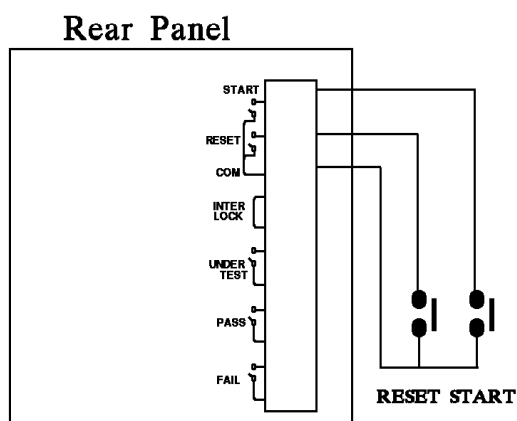
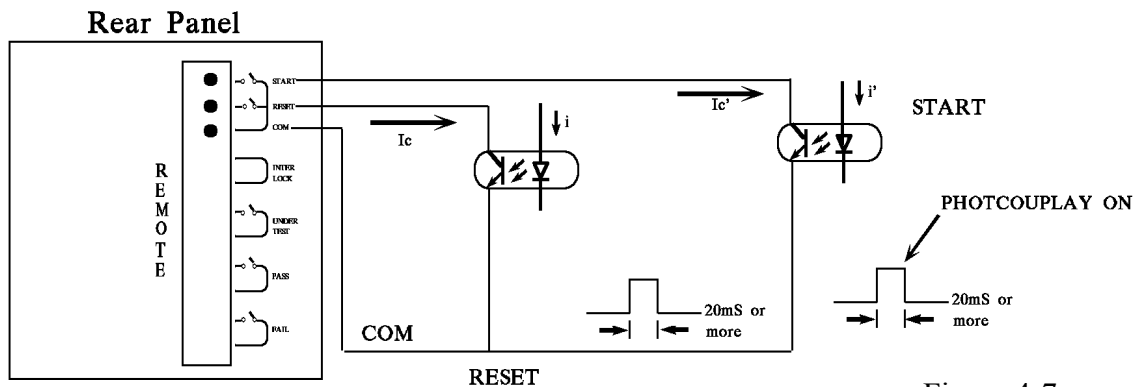

Figure 4-5
Figure 4-7
1. For single control of START and STOP signals follow Figure 4-5 listed below to connect them to the REMOTE position on front panel of the main system.
3. The logic components of transistor, FET and couplers can be connected and used as control circuit. The connected signals and circuit are shown as Figure 4-7 below. To use this circuit to control the system, it must contain the following:
4. Either the relay switch control in Figure 4-5 or the coupler control in Figure 4-7 uses the contact of components for control action. It can prevent the error operation from interference effectively. Though the system has a lot of precautions, you would still need to watch out the interference caused by the measurement system settings.